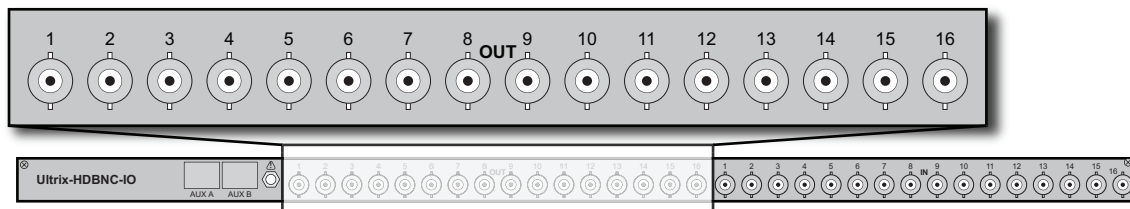

Figure 40 Ultrix Rear Panel — OUT BNC Mapping for an ULTRIX-HDBNC-IO Blade
**Figure 40** outlines the SDI output cabling designations for an ULTRIX-HDBNC-IO blade. The output BNCs are located on the left side of each blade.